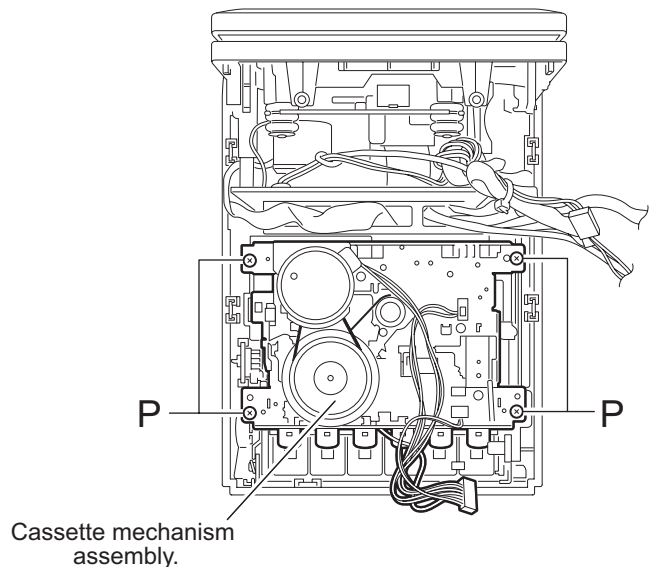

Fig.16
3.1.7 Removing the Cassette mechanism (See Fig.16)